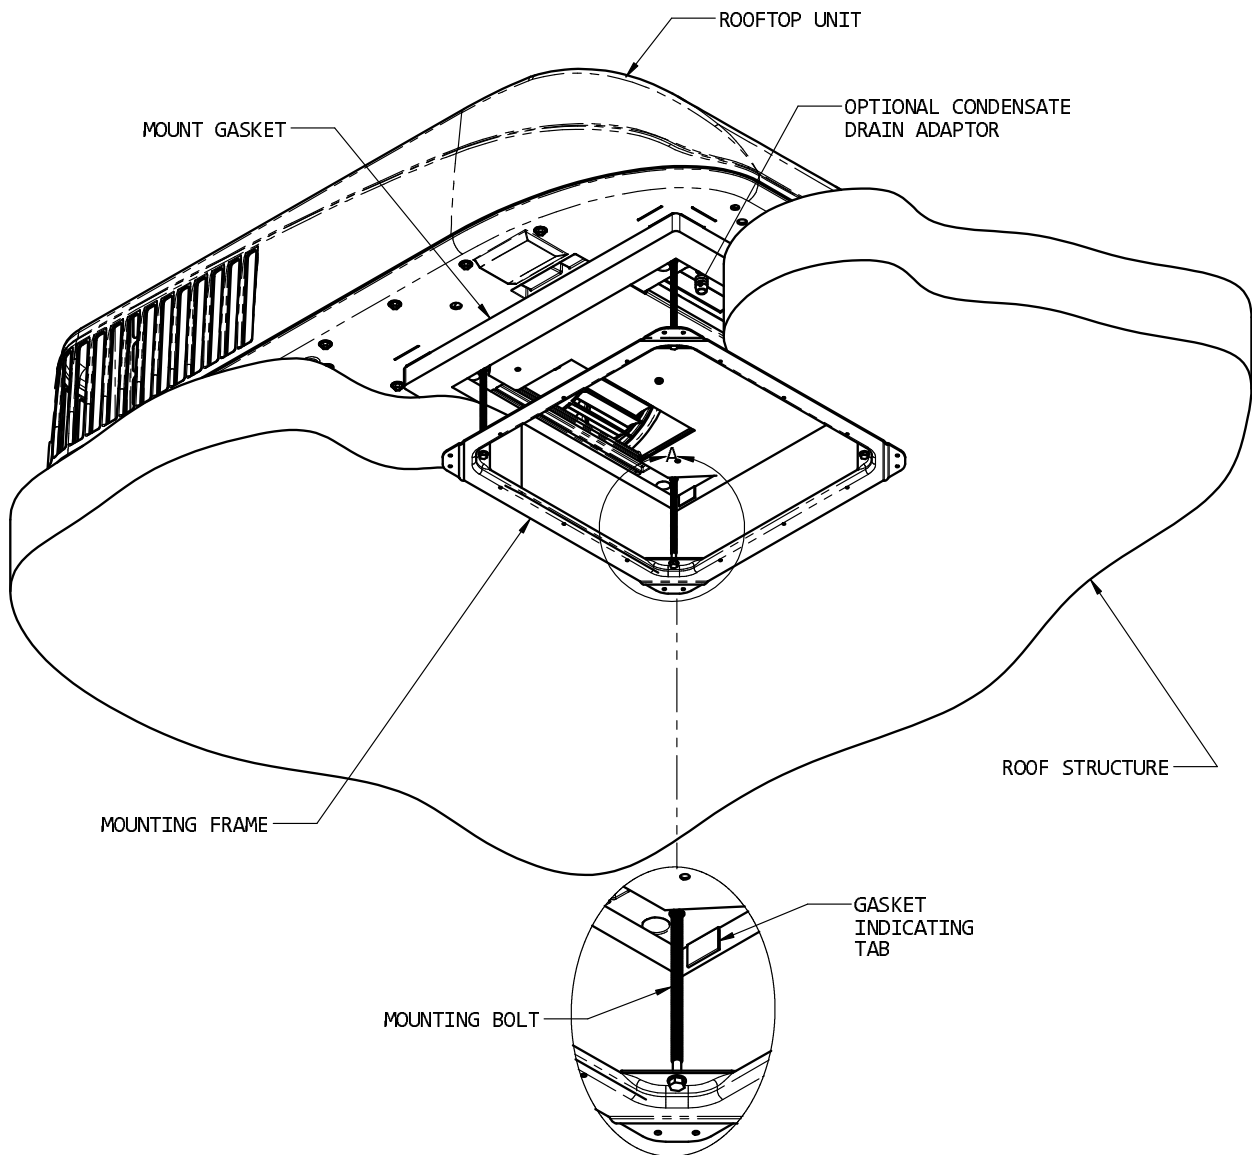

FIGURE 4
A mounting frame is supplied with the ceiling assembly. Follow the steps below to secure the air conditioner to the roof. Refer to Figure 4.
- C. Proper tension has been achieved for each bolt when any portion of each gasket indicating tab has been pulled down even with the roof. See Figure 4. The upper unit has now been properly installed with optimum gasket compression.
- D. If the air conditioner is equipped with an optional evaporator condensate pump, a 1/2" I.D. hose must be provided that runs from the 14" square opening, through the vehicle ceiling and down the side wall to allow water to drain under the vehicle. The hose must not be allowed to kink shut while making a bend. Connect the top end of the drain hose to the barbed fitting shown in Figure 4.